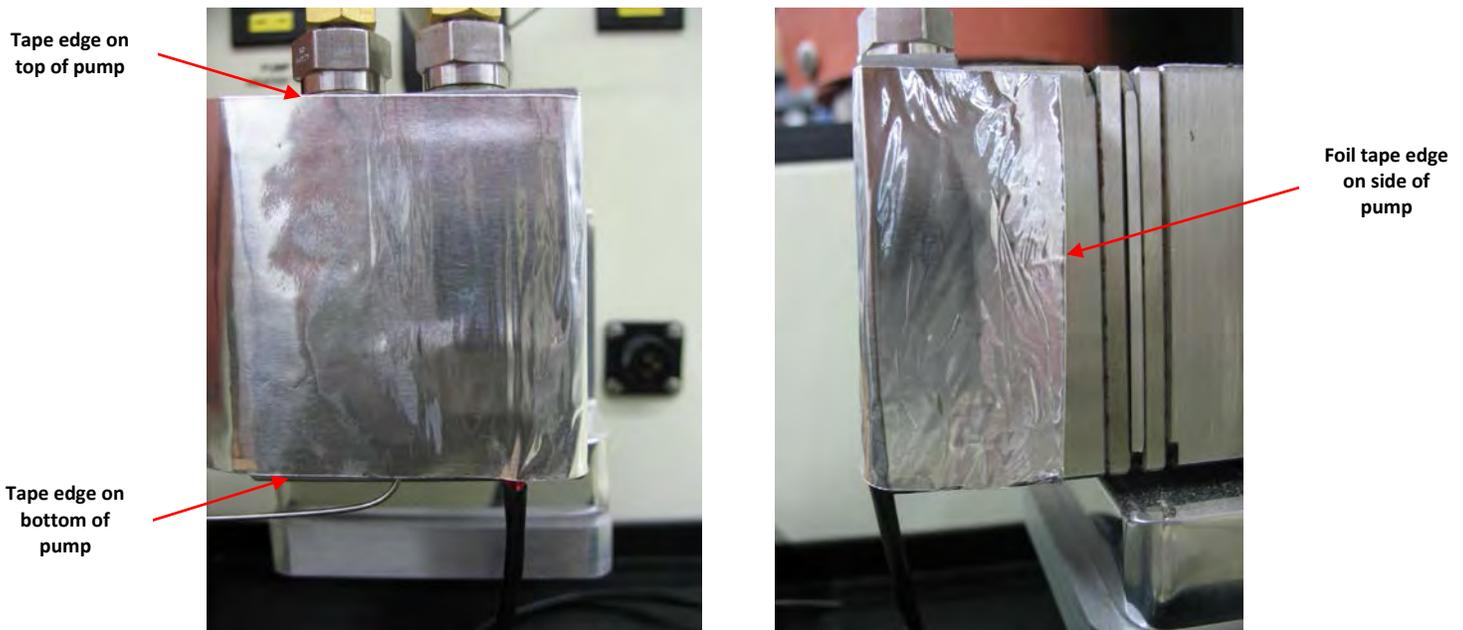

Figure I6 – High temperature foil tape placement
5. Cover heater pad with 4.5" of high temperature foil tape so that it covers entire heater pad and wraps over to each side of pump (figure I6)